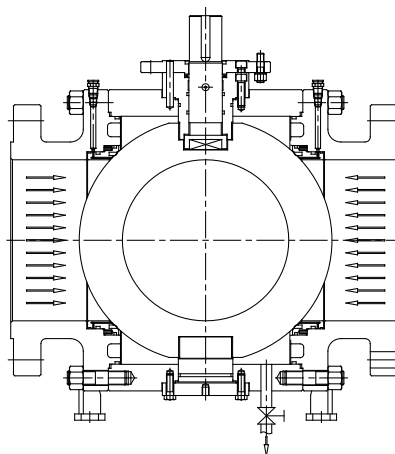

Figure 3. Double Block and Bleed Operation Schematic
- **Double Block and Bleed Operation**— Tartarini Trunnion Mounted Valve includes pressure actuated seats and bleed fittings which allow double block and bleed operation. See Figure 3.